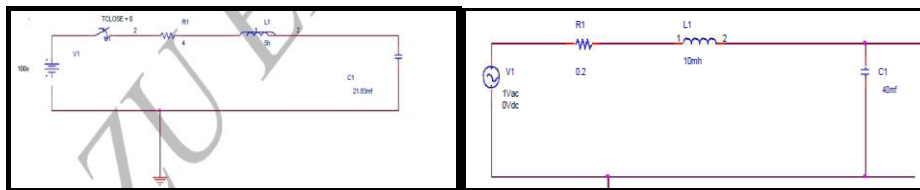
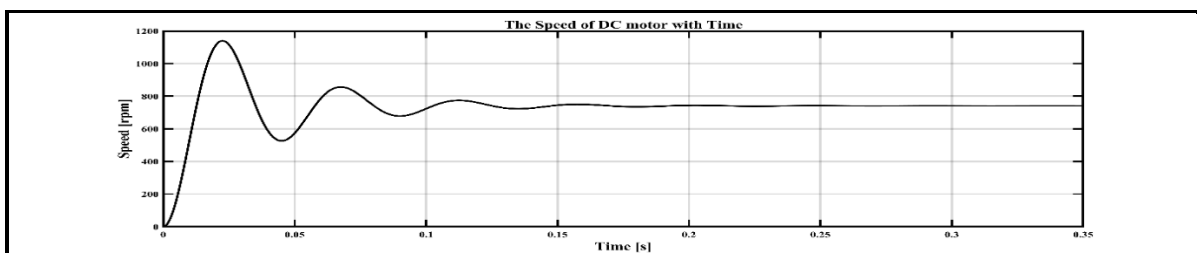

Figure 4: The 2nd Order Circuit
Figure 18: The Speed of DC motor shown in the Figure 5
The transfer function of the 2nd order circuit shown in the Figure 4 was derived the pole, voltage  $V_C$ , response of Voltage and response of current damping coefficient, corner frequency and plot the Bode diagram were found.
- **Part 5:** The MATLAB program Code 7 and 8 in Appendix A.1 was used to found the voltage VC, response of Voltage and response of current, poles, zeros, and plot of magnitude and phase of the 2nd order Circuit shown in the Figure 4, and the results shown in the Part 5 and 6 in results part.
- **Part 6:** The MATLAB program Code 9 in Appendix A.1 was used to found the damping coefficient, corner frequency and plot the Bode diagram of the 2nd order circuit shown in the Figure 4, the results are shown in part 7 in results part, the Bode diagram shown in the Figure 18.
- **Part 5:** the transfer function  $a(s)$  of the 2nd order circuit shown in the Figure 4:
- The Bode plot of the transfer function  $a(s)$  of the 2nd order circuit shown in the Figure 4:
- **Part 6:** the transfer function  $n(s)$  of the 2nd order circuit shown in the Figure 4: